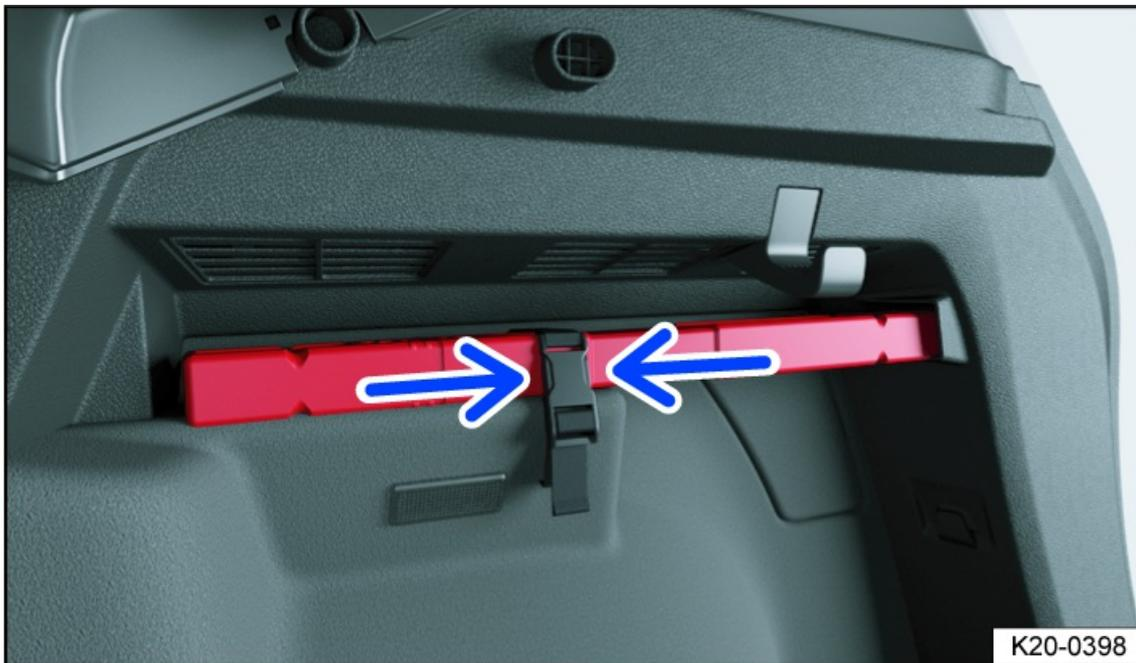

Fig. 42 In the luggage compartment on the right-hand side: Holder for the warning triangle.
1. Squeeze the catch on both sides *fig. 42* (arrows) and remove the sleeve of the warning triangle from the holder.